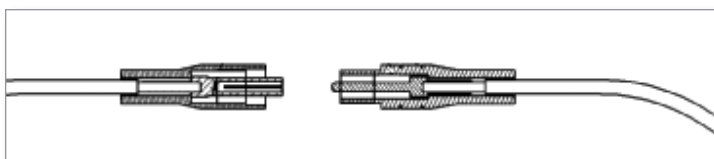

Figure 19-33 Thermocouple quick disconnect terminal ends
- terminal connector for thermocouple - see Figure 19-33